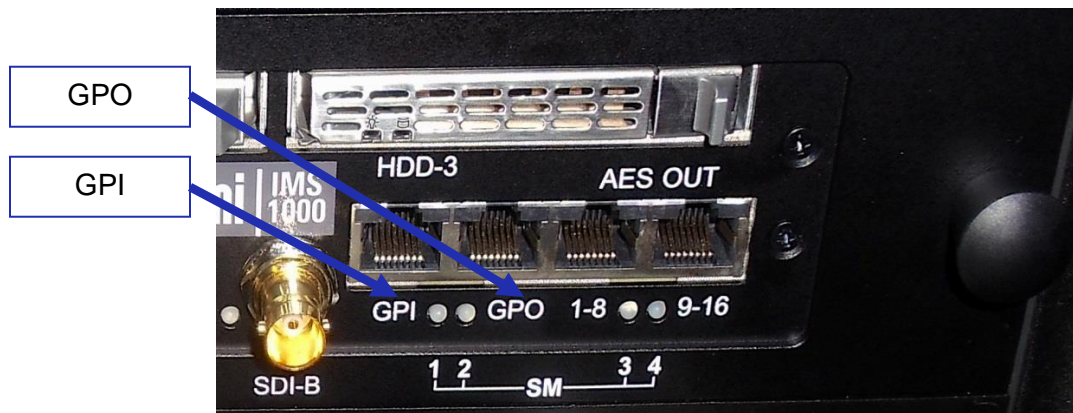

Figure 51: GPI/GPO Connectors
- Plug one shielded CAT5 or CAT6 cable end into the connector labeled GPI on the IMS1000 board (Figure 51). Install a ferrite core clamp near the connector closest to the IMS1000. Refer to Section 2525 for more information on ferrite core clamp installation.
- Take another shielded CAT5 or CAT6 cable and plug the end into the IMS1000 connector labeled GPO (Figure 51). Install a ferrite core clamp near the connector closest to the IMS1000. Refer to Section 25 for more information on ferrite core clamp installation.